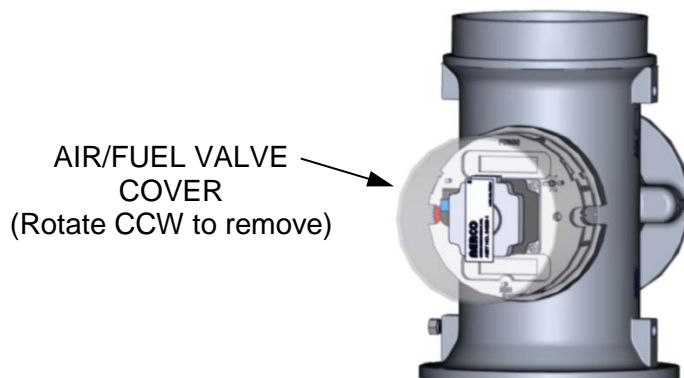

Figure 5-7. Typical Air/Fuel Valve Cover Location
2. Remove the Air/Fuel Valve cover by rotating the cover counterclockwise to unlock it (see Figure 5-7).
3. Remove the Air/Fuel Valve cover (see Figure 5-7) by rotating the cover counterclockwise to unlock and lift up to remove.